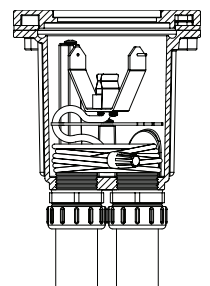

fig. 4
- 9. Coil wire leads along bottom of fixture and close wiring compartment as shown in fig. 4.